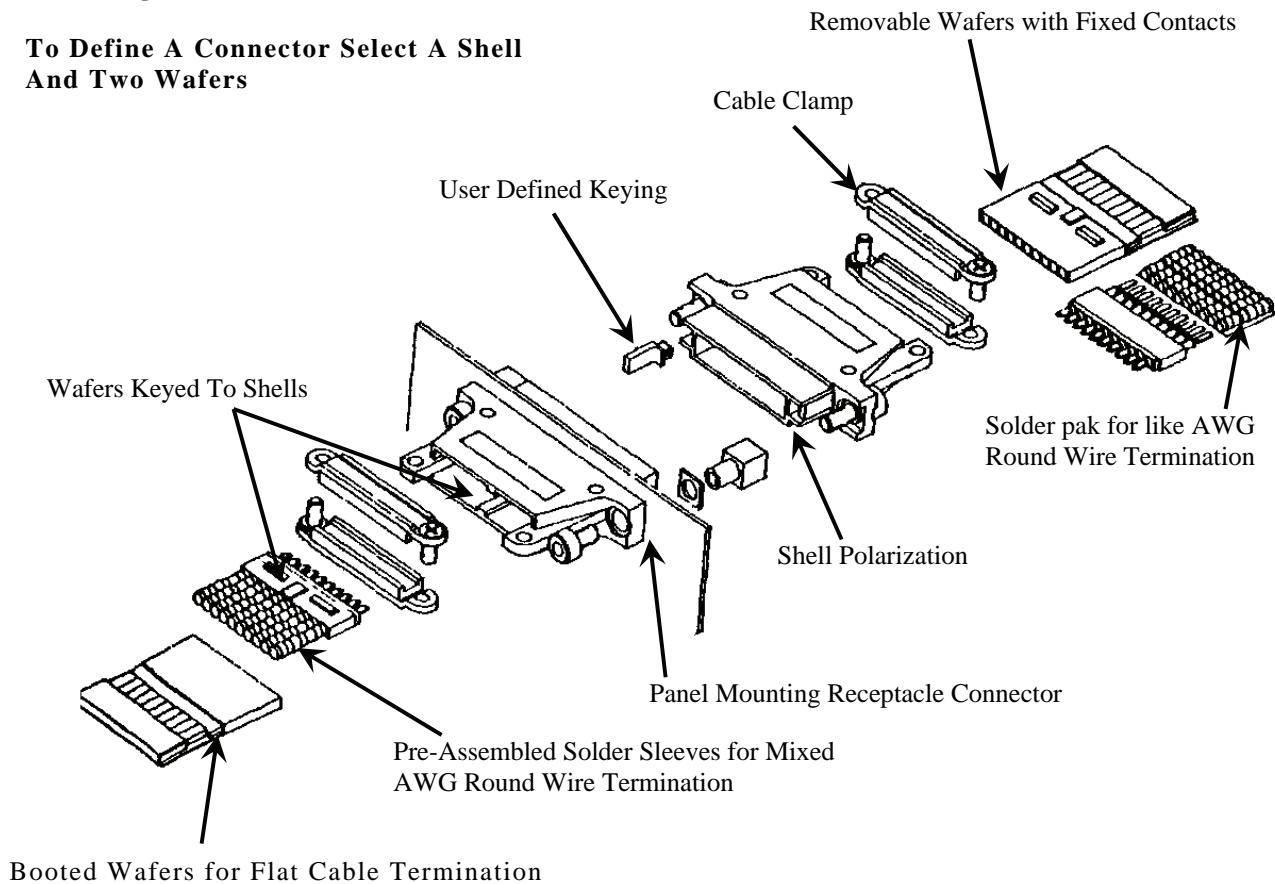

Figure 1. MTC Breakdown
2. This Work Package (WP) covers environment-resisting, rectangular, stacked and panel mounted connectors, manufactured in accordance with commercial MTC specifications (commonly referred to as wafer connector), having pin and socket crimp removable or solder, power, signal and coaxial contacts, for use with flat cable or round wire (Figure 1).